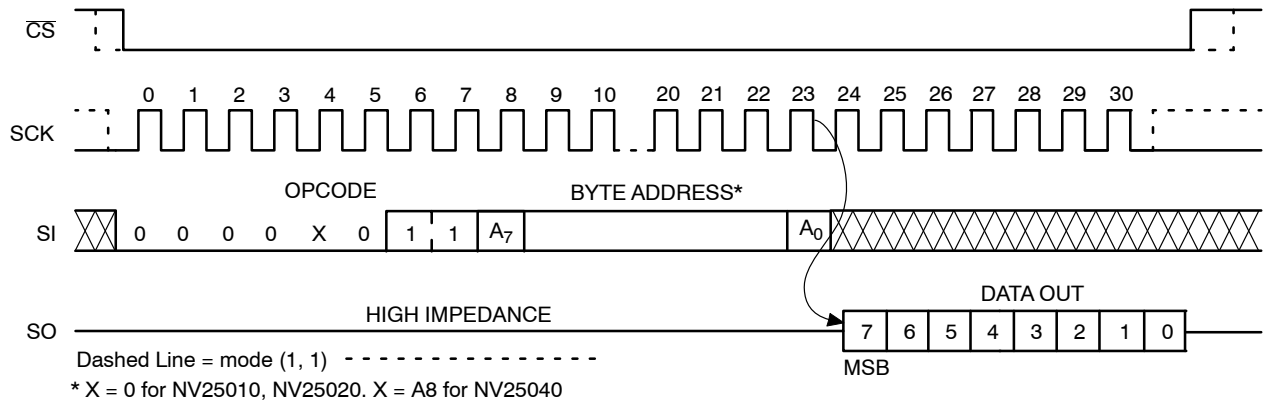

Figure 8. READ Timing
After receiving the last address bit, the NV250x0 will respond by shifting out data on the SO pin (as shown in Figure 8). Sequentially stored data can be read out by simply continuing to run the clock. The internal address pointer is automatically incremented to the next higher address as data is shifted out. After reaching the highest memory address, the address counter “rolls over” to the lowest memory address, and the read cycle can be continued indefinitely. The read operation is terminated by taking $\overline{CS}$ high.
Reading the additional 16-byte Identification Page (IP) is achieved using the same Read command sequence as used for Read from main memory array (Figure 8). **The IPL bit from the Status Register must be set to 0 before attempting to read from the IP.** The [A3:A0] are the address significant bits that point to the data byte shifted out on the SO pin. If the $\overline{CS}$ continues to be held low, the internal address register defined by [A3:A0] bits is automatically incremented and the next data byte from the IP is shifted out. The byte address must not exceed the 16-byte page boundary.